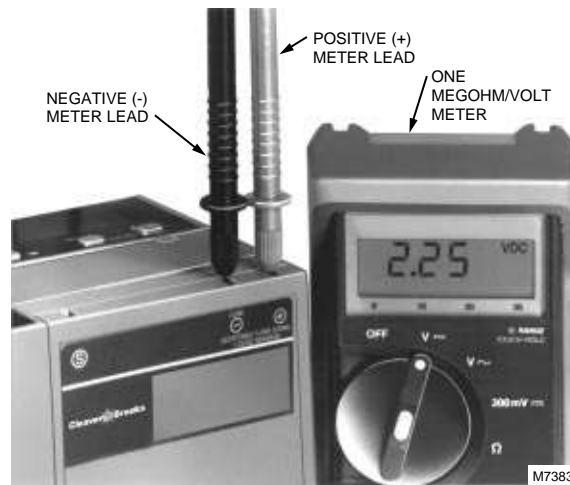

Fig. 22—Flame signal measurement.
### Flame Signal Measurement (Table 7 and Fig. 22)
- 3 Insert the positive (red) probe into the + jack of the flame amplifier. Insert the negative (black) probe into the (Com) jack of the flame amplifier, see Fig. 22.